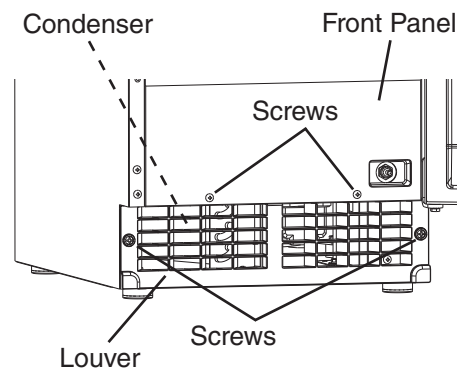

Fig. 48
- 2) Remove the 2 screws securing the front panel, then remove the panel. See Fig. 48.